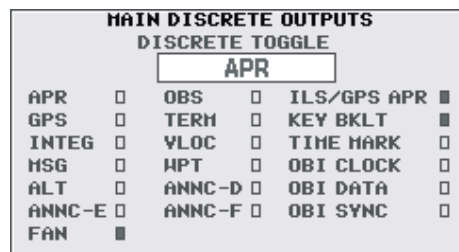

Figure 5-10. Main Discrete Outputs Test Page
1. Select the Main Discrete Outputs Test Page (Figure 5-10) for the Annunciate Outputs test.
1. Use the Main Discrete Outputs Test Page to monitor the following test (Figure 5-10).